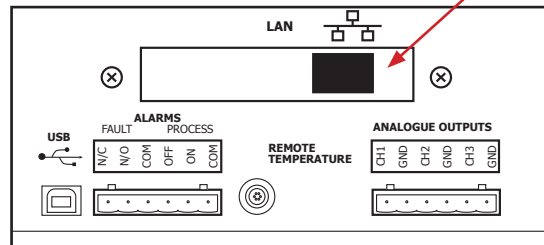

Figure 10 *Ethernet Port*
1. Check the orientation of the connector and gently push it into the communications socket (see *Figures 10 and 11*).